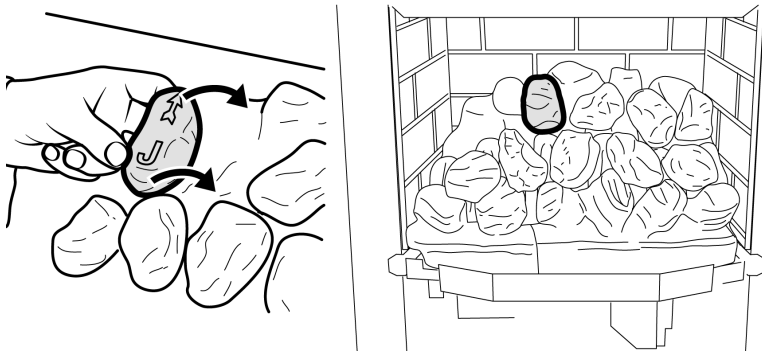

Figure 15. Third row "Coal J"
1. Hold coal 'J' upright with the arrow pointing to the top. Locate coal 'J' as shown in figure 15